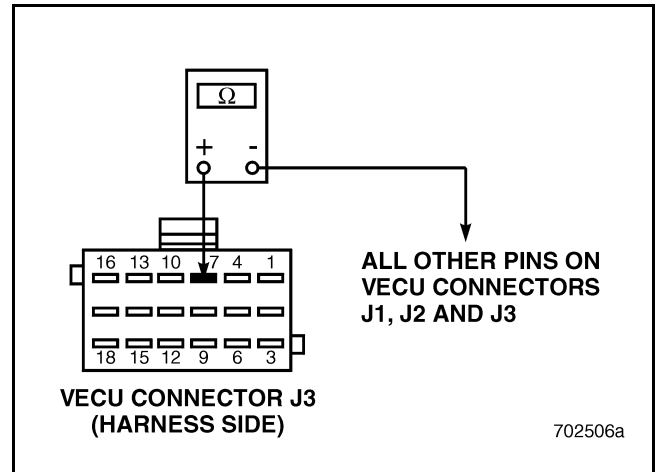

Figure 587
4. Check for continuity between VECU connector J3, pin 7 and all other pins on VECU connectors J1, J2 and J3 (see Figure 587).